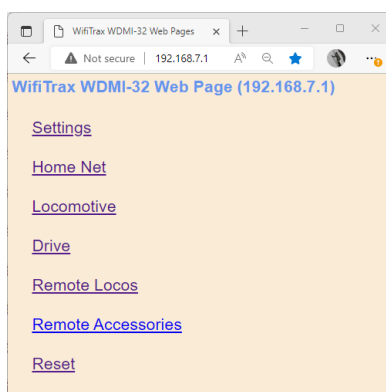

Figure 6 Main Menu of WDMI-32 Module shown in a Browser
- (1) The first thing you have to do is make the WDMI-32 in the loco connect to your router. So, using a computer, tablet or phone connect to its access point `wftrx_WDMI32_1_XXXXXXX_7`. You don't need a password of course.
- (2) Now open a browser such as Chrome, Edge or Safari and enter `192.168.7.1` into the URL text box and hit enter. This will display the main menu of the WDMI-32 module as Figure 6.